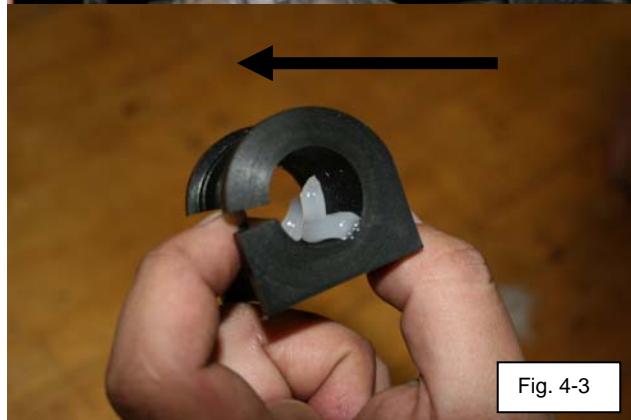

Fig. 4-3
- (e) Apply supplied grease to round bore of the bushings (Fig. 4-3). Install onto sway bar with opening facing the front of the vehicle. Rotate bushings to evenly distribute grease in bore.